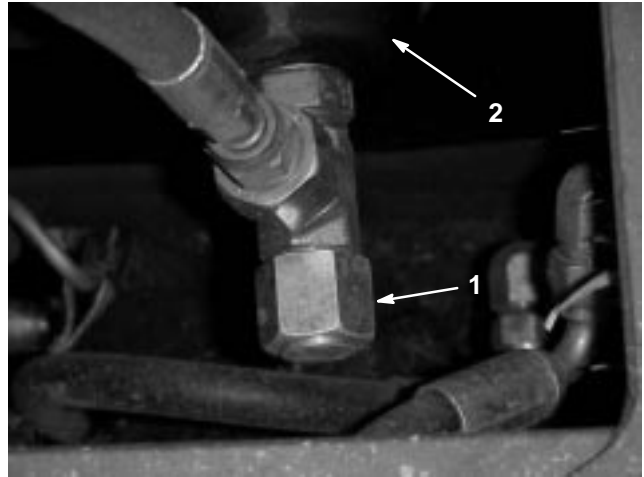

Figure 48
2. Locate plugs at right rear behind front wheel, at rear center and front center of reservoir (Fig. 48).
1. Place drain pan under reservoir. In turn, remove all 3 drain plugs and let oil drain into pan (Fig. 48).